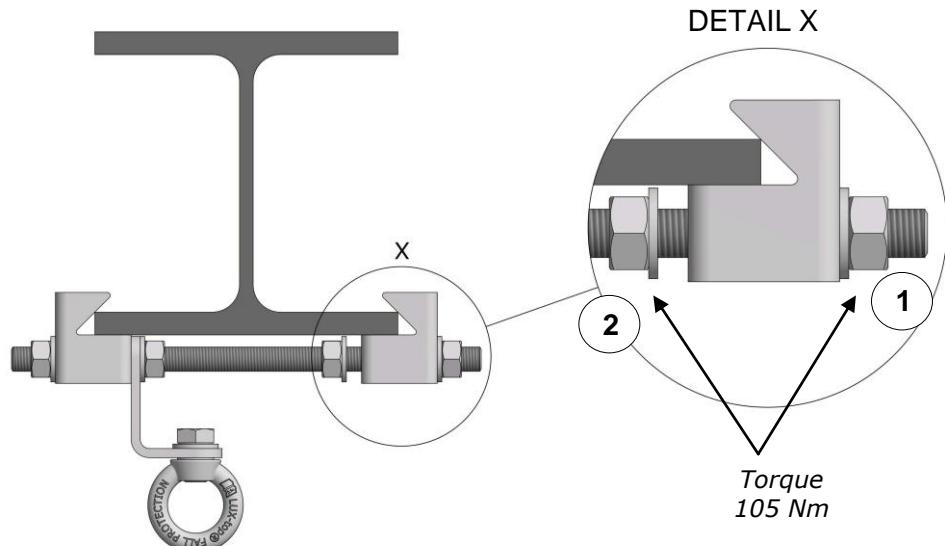

Figure 3
3. Position **LUX-top® QUICKFIX II** at the required place according to *Figure 3*. Then firstly tighten the outer nut with a torque of 105 Nm (1). After that tighten the inner nut with a torque of 105 Nm (2).